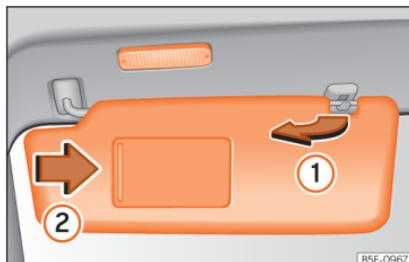

Fig.154 Sun visor
- The sun visor can be pulled out of its mounting and turned towards the door >>> **Fig. 154 1**.